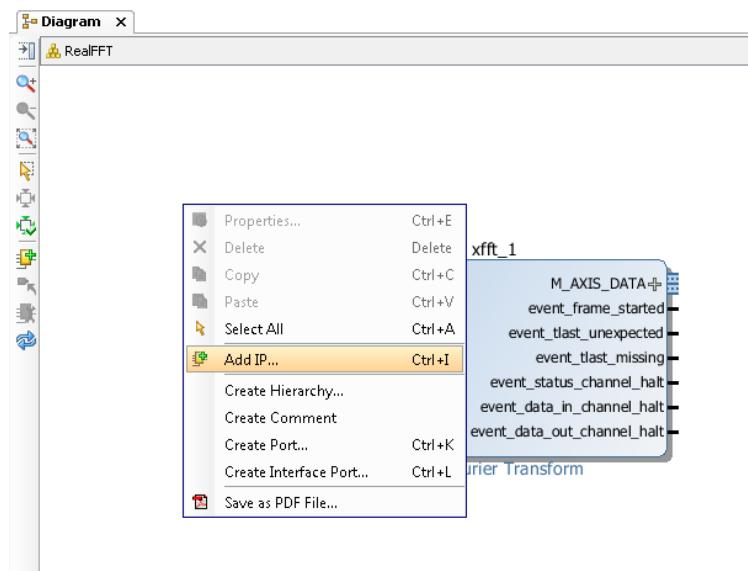

Figure 201 Add IP blocks
- Right-click in any space in the canvas and select Add IP. (Figure 201).